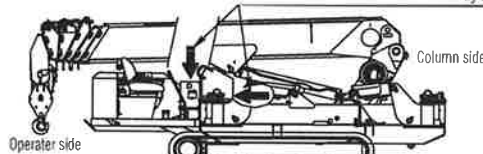

Fig.1 Covers to be removed
1. Remove covers at 2 places as illustrated in the figure 1.